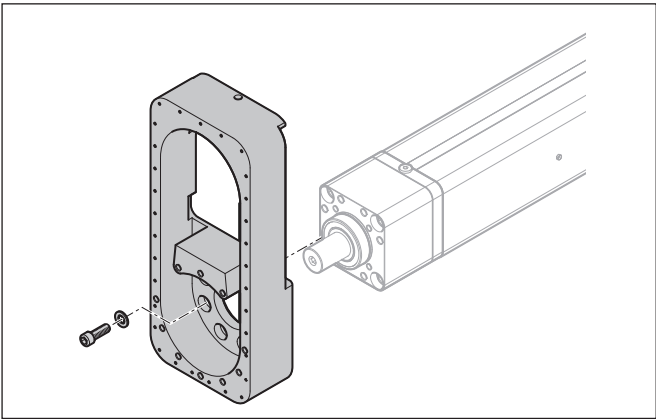

Fig. 20: Mounting the housing
- 1. Push the bearing (6) onto the screw end.
- 2. Align the housing (2) to the bearing and screw it to the EMC-HP ➡ Fig. 20.